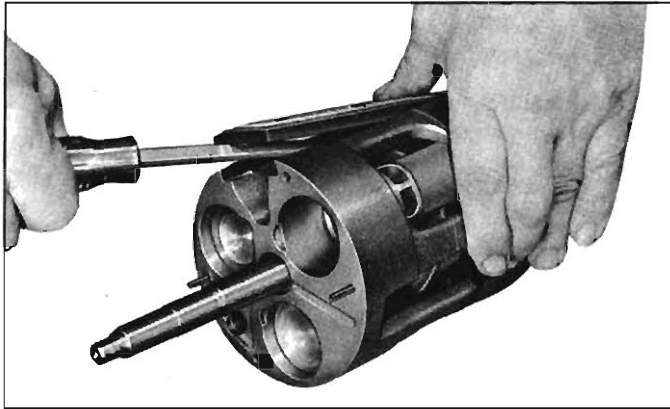

Fig. 11-46—Removing Suction Crossover Cover
6. Remove the suction crossover cover (fig. 11-46) and discard the old gasket.